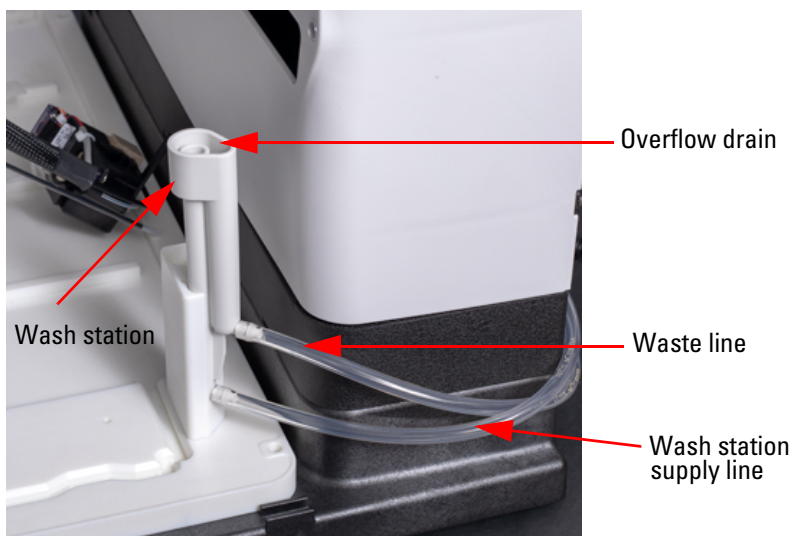

Figure 2-31 Wash station and overflow drain
3. Ensure the wash solvent is pumped into the center portion of the wash station and, when full, the fluid drains into the overflow drain (Figure 2-31).